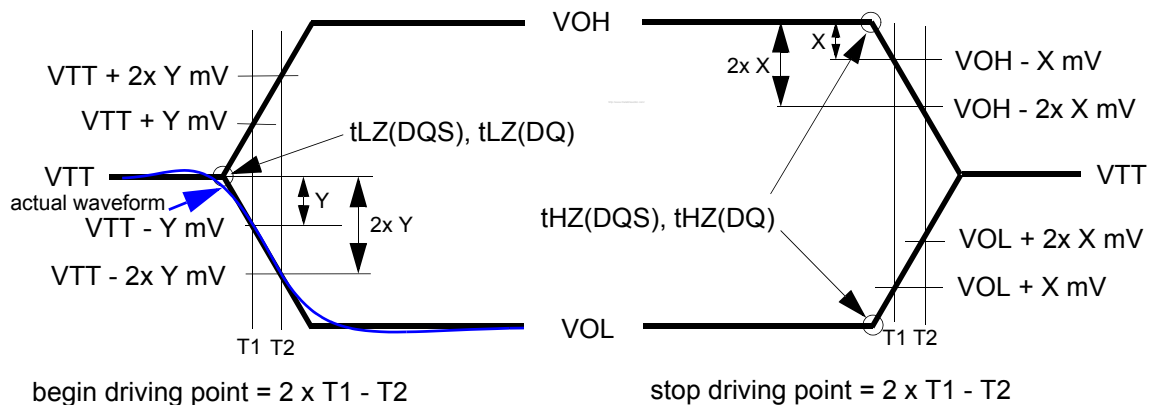

Figure 15. HSUL_12 Driver Output Reference Load for Timing and Slew Rate
- 12) For low-to-high and high-to-low transitions, the timing reference will be at the point when the signal crosses VTT. t_{HZ} and t_{LZ} transitions occur in the same access time (with respect to clock) as valid data transitions. These parameters are not referenced to a specific voltage level but to the time when the device output is no longer driving (for t_{RPST}, t_{HZ}(DQS) and t_{HZ}(DQ)), or begins driving (for t_{RPRE}, t_{LZ}(DQS), t_{LZ}(DQ)). Figure 15 shows a method to calculate the point when device is no longer driving t_{HZ}(DQS) and t_{HZ}(DQ), or begins driving t_{LZ}(DQS), t_{LZ}(DQ) by measuring the signal at two different voltages. The actual voltage measurement points are not critical as long as the calculation is consistent.